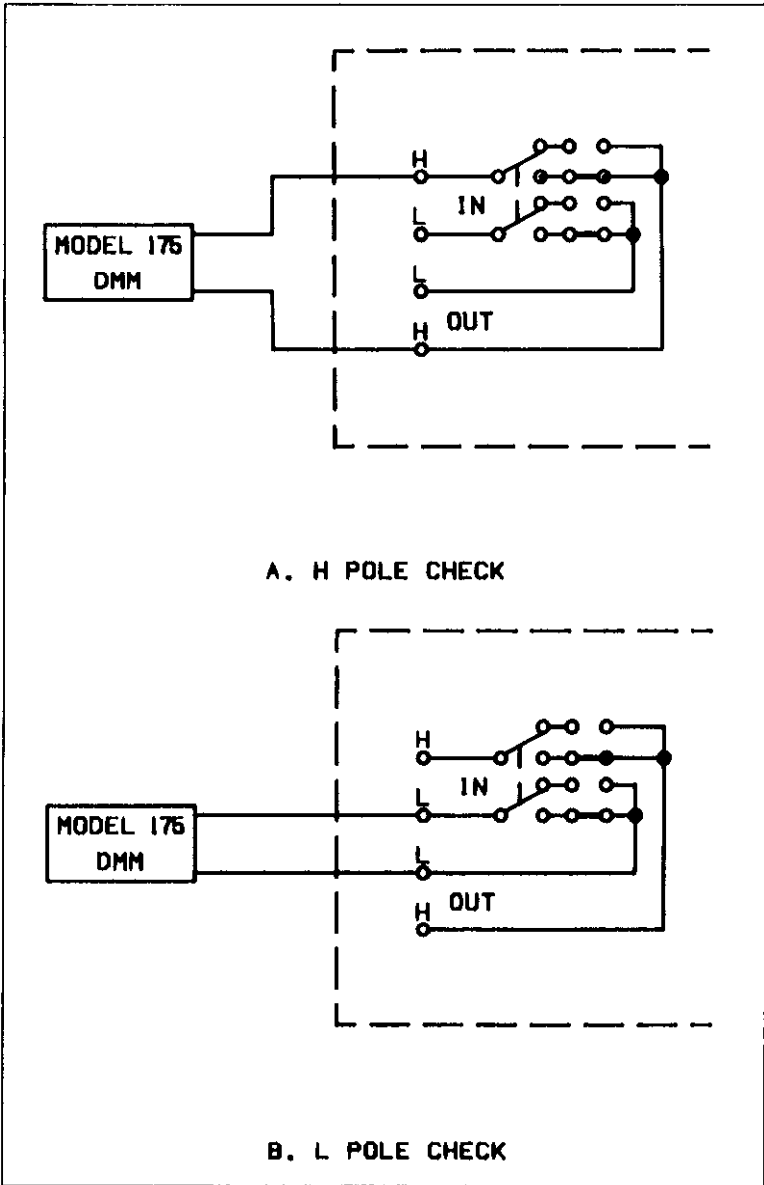

Figure 3-1. Performance Verification Setup
4. Referring to Figure 3-1(A), connect the DMM to the H terminals of the relay.
7. If the relay switch is normally open (NO), verify that the input isolation is $>200M\Omega$. If the relay switch is normally closed (NC), verify that the contact resistance is $<2\Omega$.
10. Referring to Figure 3-1(B), connect the DMM to the L terminals of the relay.